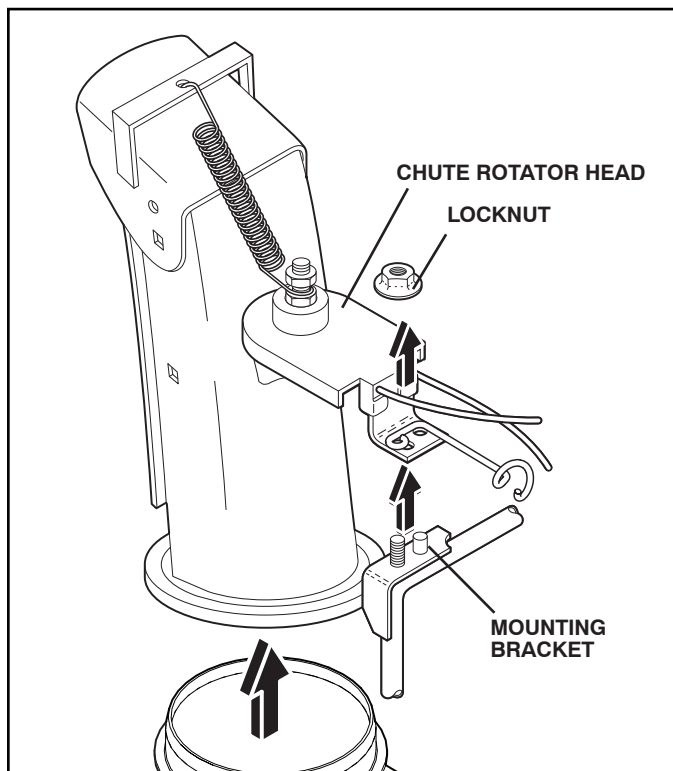

FIG. 21
2. REMOVE DISCHARGE CHUTE - Remove lock nut securing chute rotator head to mounting bracket to allow chute rotator head to be raised and discharge chute to be removed from snow thrower. See Fig. 21.